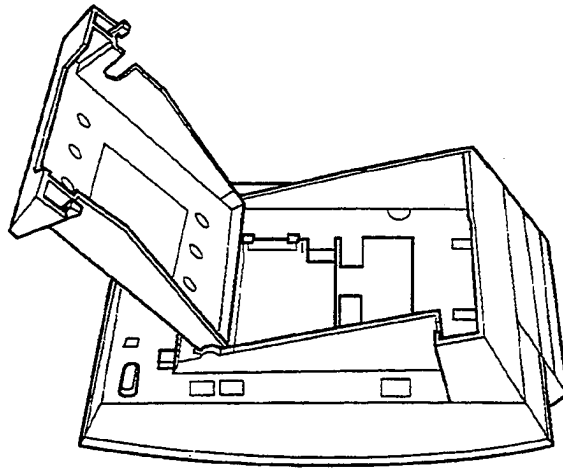

Figure 1-85 Attach the Unit to the Digital Multiline Terminal
4. Plug the receptacle connector on the unit in the receptacle connector inside the tilt panel on the terminal. Refer to Figure 1-85 Attach the Unit to the Digital Multiline Terminal.